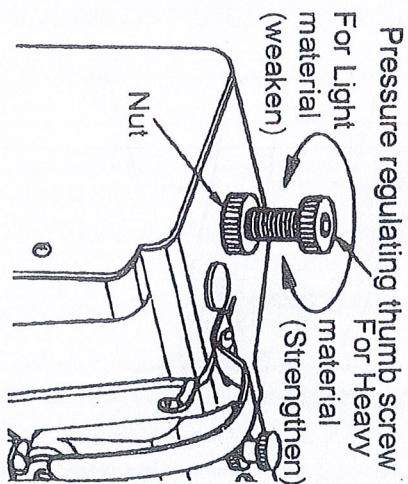

Fig. 5
10、 Adjust the Pressure of Presser Foot (Fig.5):